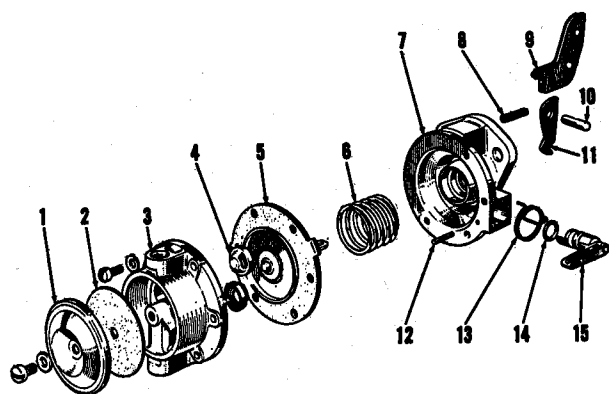

Fig. 110—Exploded view of diaphragm type fuel lift pump.
128. The fuel lift pump is mounted on the outside of the fuel injection pump and is driven from a cam on the injection pump camshaft. The fuel pump is of the diaphragm type, and the component parts are available for service. Refer to exploded view of the fuel pump assembly in Fig. 110. The inlet and outlet valves (4) are staked into the outer body (3); when renewing valves, insert in body as shown and carefully stake in position. The primer lever retaining pin (12) must be installed with outer end below flush with the machined surface of inner body (7), to prevent damage to diaphragm (5). After inserting pivot pin (10) in inner body, securely stake pin in place.